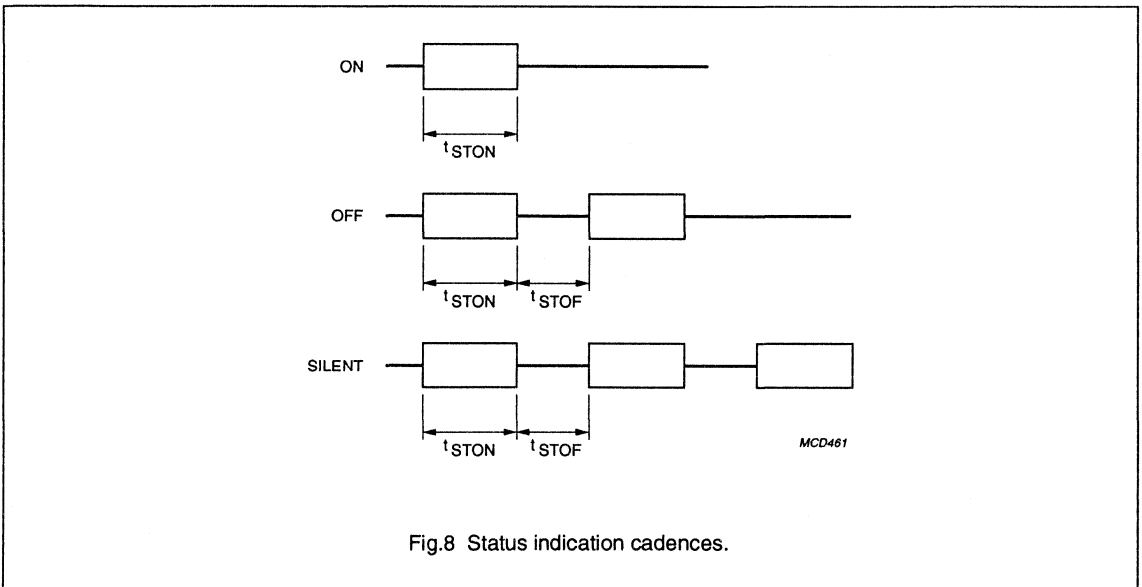

Fig.8 Status indication cadences.
On status interrogation by the status request and reset input (SR) the PCF5001T generates a status cadence at low-level, in accordance with the present internal decoder status, see Fig.8.